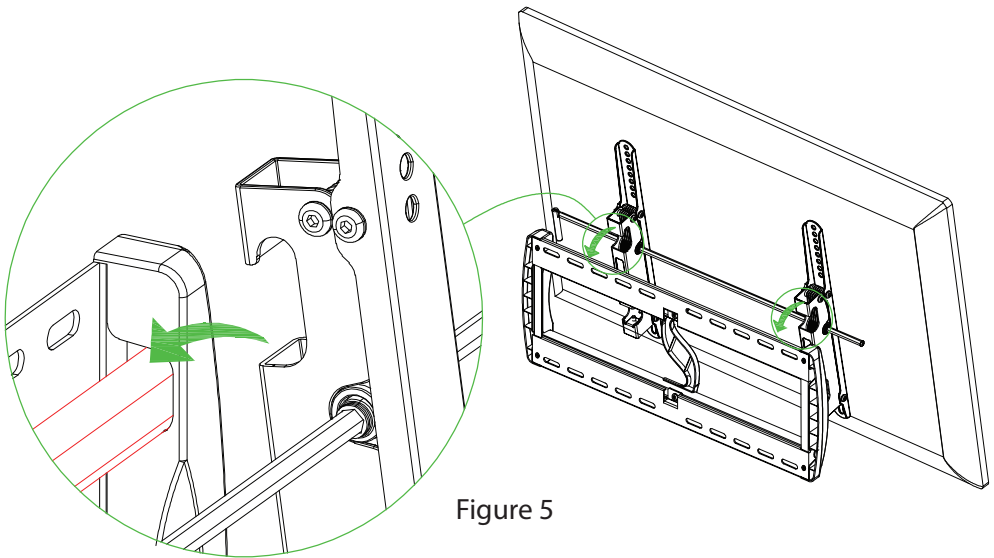

Figure 5
**Step 4:** Hang the pre-assembled TV unit on the Wall Plate. Pull down to release the safety catch on both Brackets to attach the assembly to the bottom part of the Wall Plate. (Figure 5)